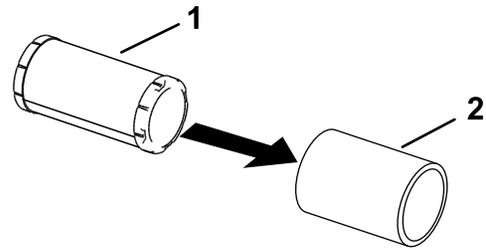

Figure 35
5. Separate the foam and paper elements (Figure 35).